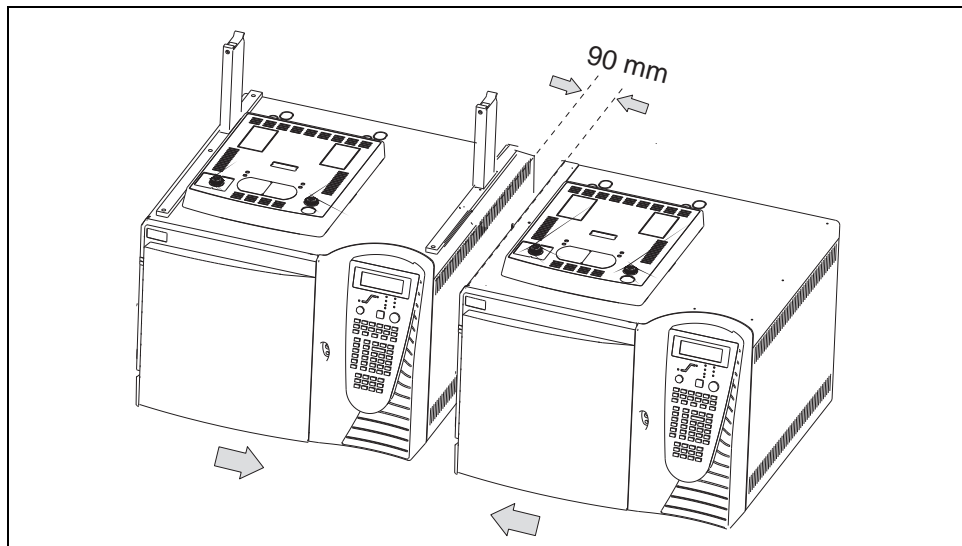

Figure 3-7. TRACE GC's Ultra Placing
5. Move the second TRACE GC Ultra beside the first one leaving a distance of about 90 mm between the two GC units as shown in Figure 3-7.